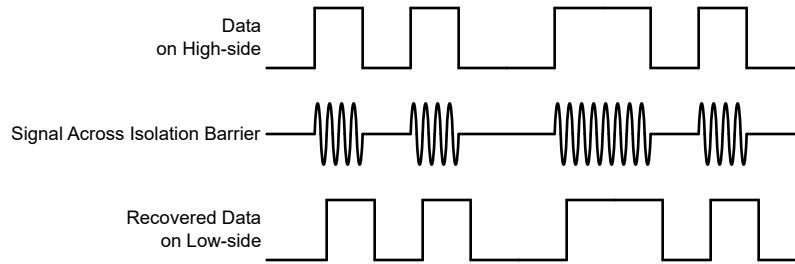

Figure 6-4. OOK-Based Modulation Scheme
The AMC22C11-Q1 uses an on-off keying (OOK) modulation scheme, as shown in Figure 6-4, to transmit the comparator output states across the SiO_2 -based isolation barrier. The transmit driver (TX) shown in the Functional Block Diagram transmits an internally-generated, high-frequency carrier across the isolation barrier to represent a digital one and does not send a signal to represent a digital zero.